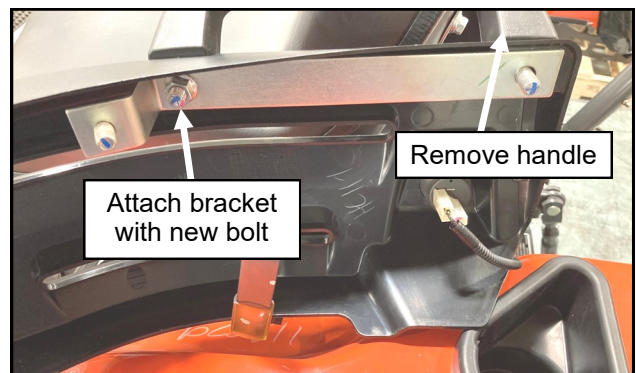

Fig. 1.7 (left fender console bracket)
**1.7** Re-attach the bracket underneath the console through the forward handle hole with the bolt, washer and nut listed below and tighten. See Figure 1.7